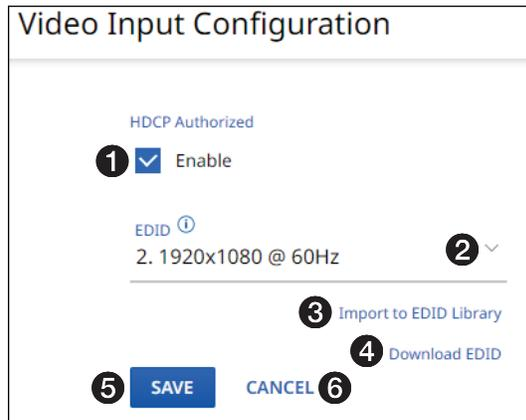

Figure 14. Video Input Configuration Dialog Box
If you change any of the settings in the **Video Input Configuration** dialog box (see figure 14, ❶ through ❹), the **SAVE** button (❺) becomes selectable. Click **SAVE** to take changes or **CANCEL** (❻) to abandon them. Clicking either button closes the dialog box.